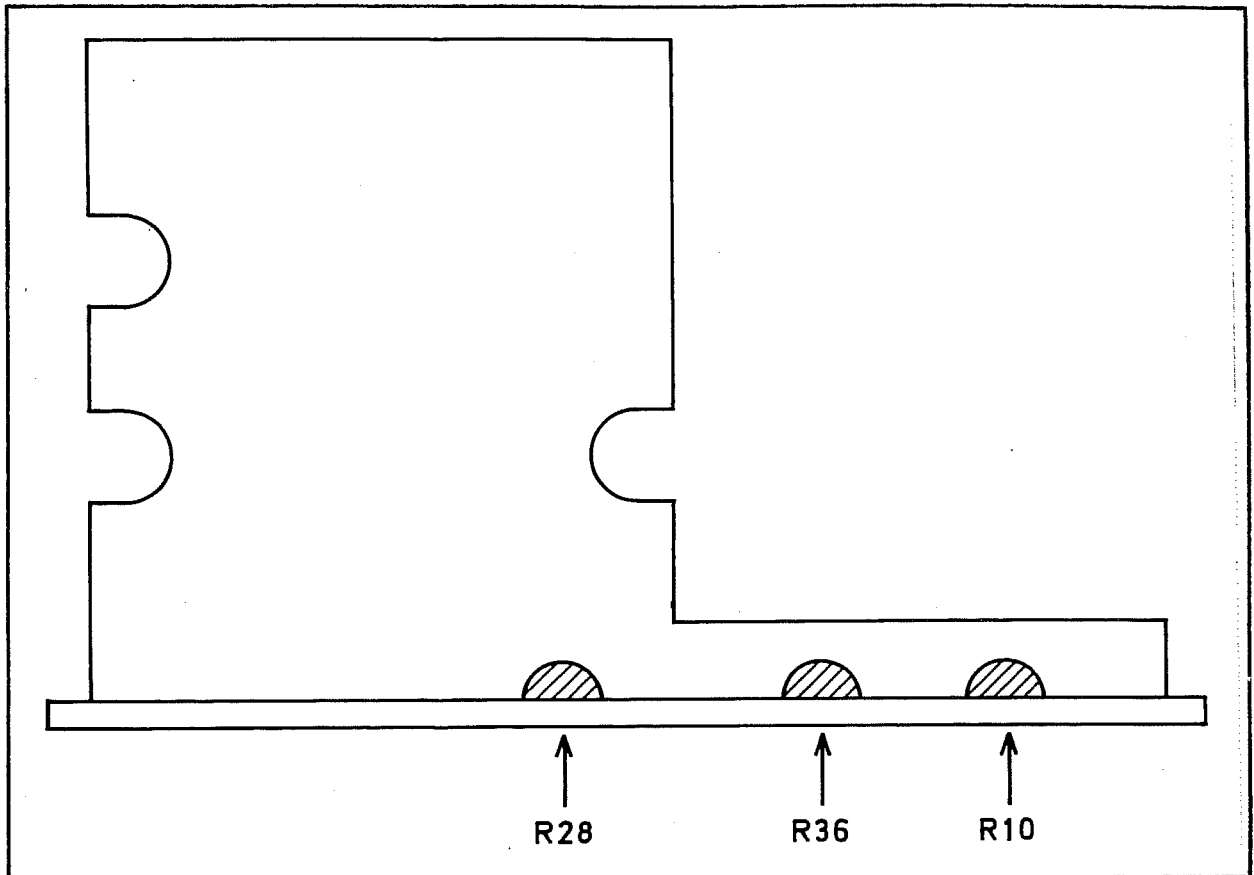

Fig. 7.16 Locations of R10, R28 and R36
- (1) Set R10, R28 and R36 on the battery pack fully clockwise, see Fig. 7.16.
- (2) Set the INTERNAL/EXTERNAL switch to EXTERNAL.
- (3) Set the NORMAL/BATTERY SAVE switch to NORMAL.